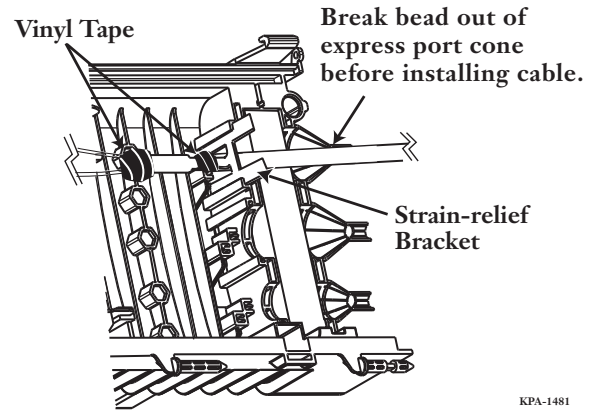

Figure 12 — Install Cable into Express Ports
- Step 4:** Remove bead from express port cones to be used. Install both ends of the cable into the top express ports and slide the longer legs on the strain-relief bracket into the groove on the bottom shell of the terminal (Figure 12).